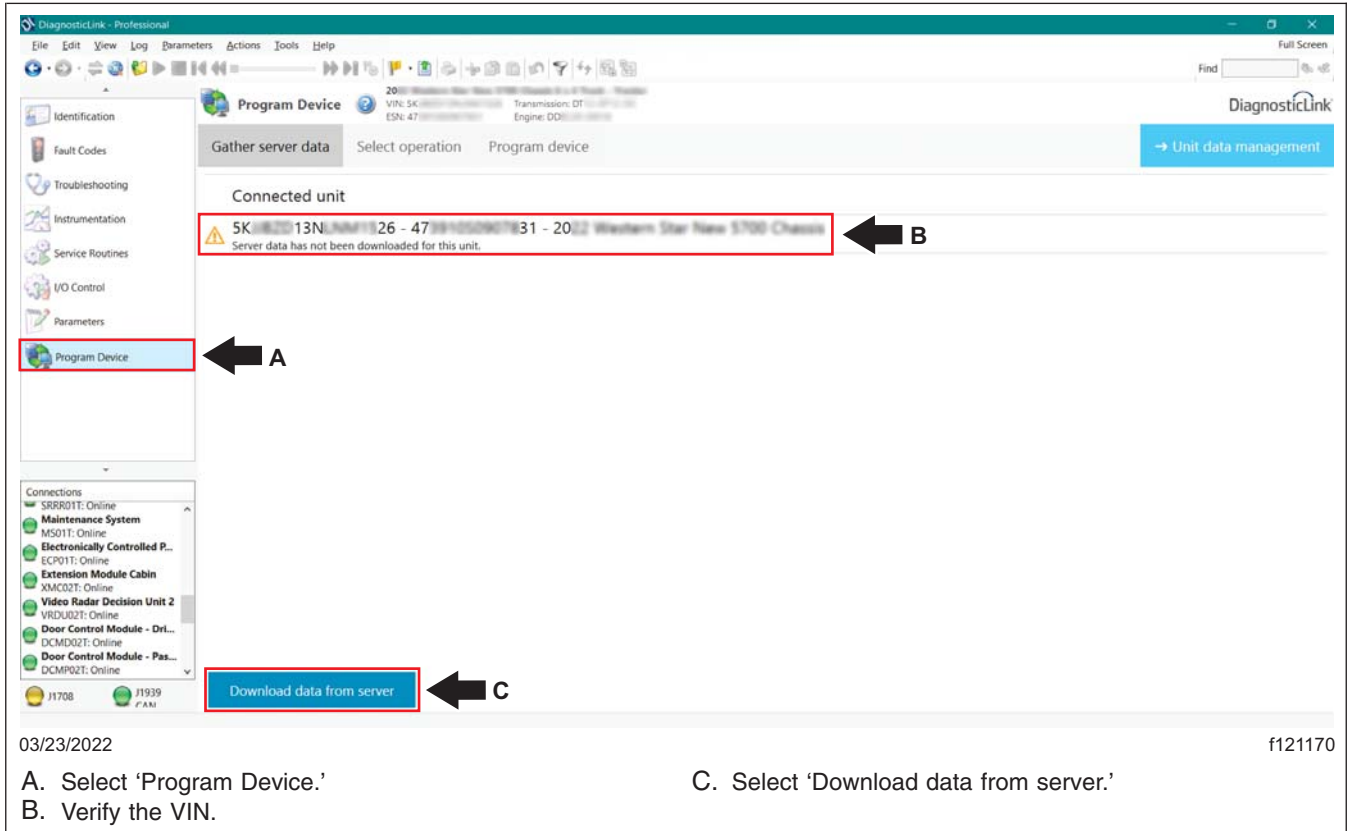

Fig. 2, Downloading Data from the Server
- Go to 'Program Device,' and make sure that the vehicle identification number (VIN) that appears is correct. Then select 'Download data from server.' See Fig. 2.